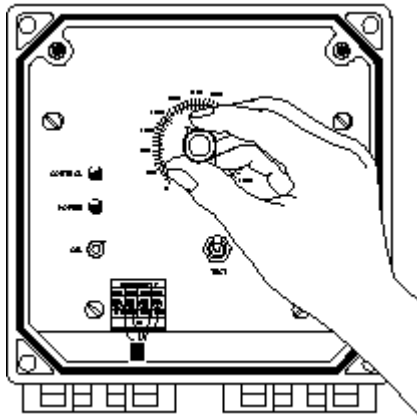

Fig. 7 Position Trip Point Knob
3) Set the trip point knob to the conductivity measured by the hand held meter (Fig. 7).